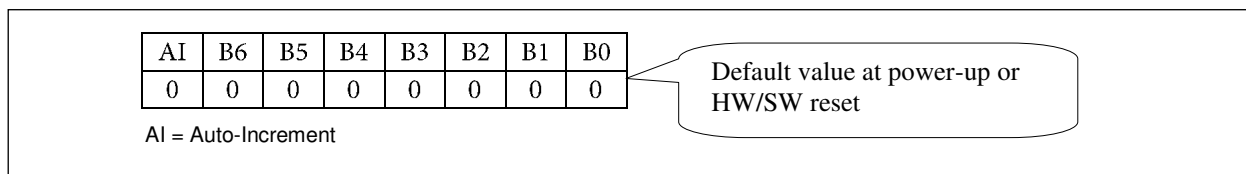

Figure 10. Pointer Register Bits
Following the successful acknowledgement of the address byte, the bus master sends a register address, which is stored in the Pointer register in the PI4IOE5V6534Q. The lowest 7 bits (B[6:0] in Table 3) are used as a pointer to determine which register is accessed and the highest bit is used as Auto-Increment (AI) as shown in Figure 10. At power-up, hardware or software reset, the pointer register defaults to 00h, with the AI bit set to '0' and the lowest seven bits set to '000 0000'.